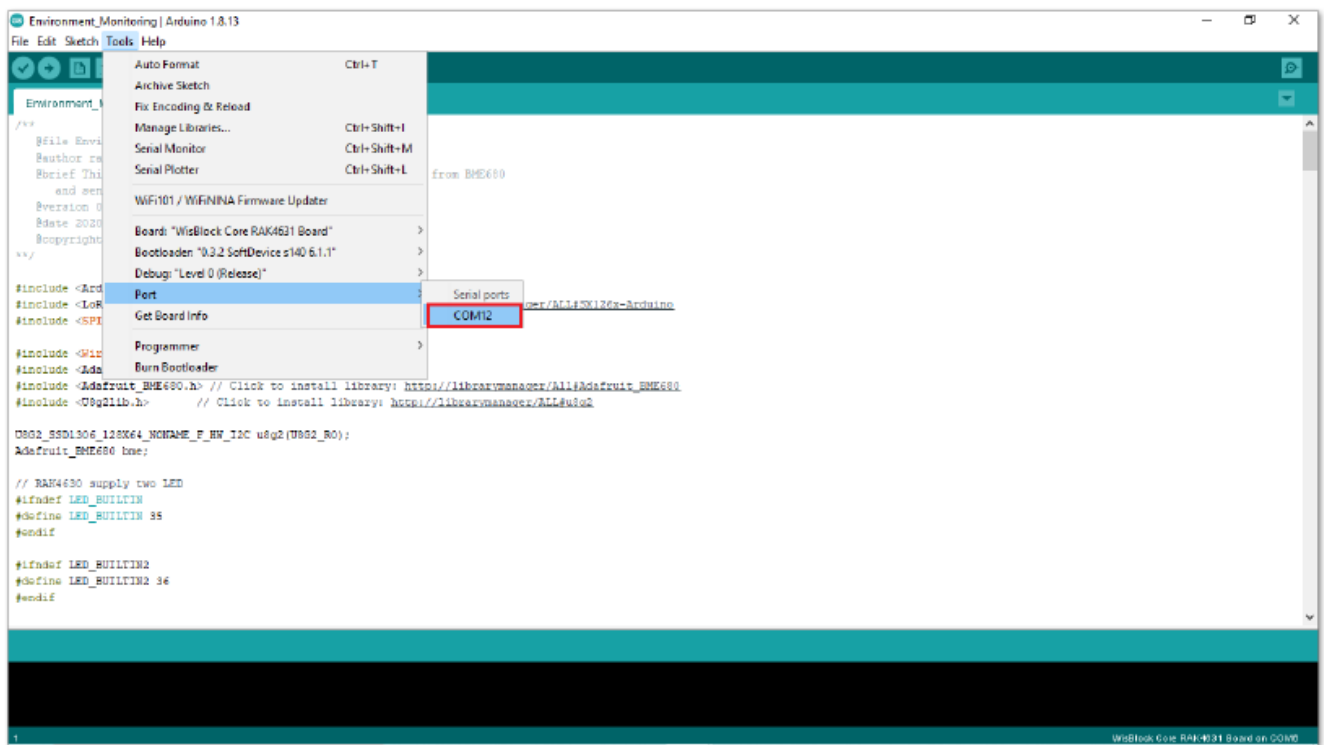

Figure 15: Selecting the correct Serial Port
1. After successful installation of the library, you can now select the right serial port and upload the code, as shown in **Figure 15** and **Figure 16**